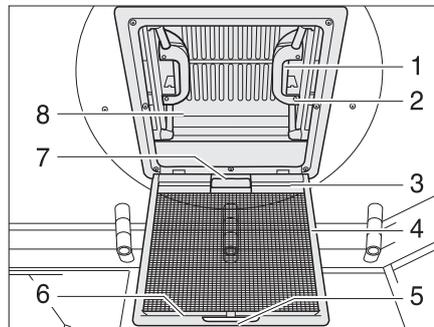

Fig. 43 Skylight with snap latch
- Pull on the handle (Fig. 43,5).
- Fold the insect screen (Fig. 43,4) downwards.
- Push the spring-loaded latch (Fig. 43,1) towards the inside of the skylight (Fig. 43,8). At the same time use the handle (Fig. 43,2) to press the skylight upwards.
- Swing the insect screen upwards (Fig. 43,4) until it latches in place.
- Using both handles (Fig. 43,2), pull down the skylight (Fig. 43,8) with force until the two snap latches (Fig. 43,1) lock into place.
- Pull the handle (Fig. 43,7) of the blind and hook the hook rail (Fig. 43,3) into the retainer (Fig. 43,6) on the insect screen.
- Release the hook rail (Fig. 43,3) from the retainer (Fig. 43,6) and feed the blind back slowly.